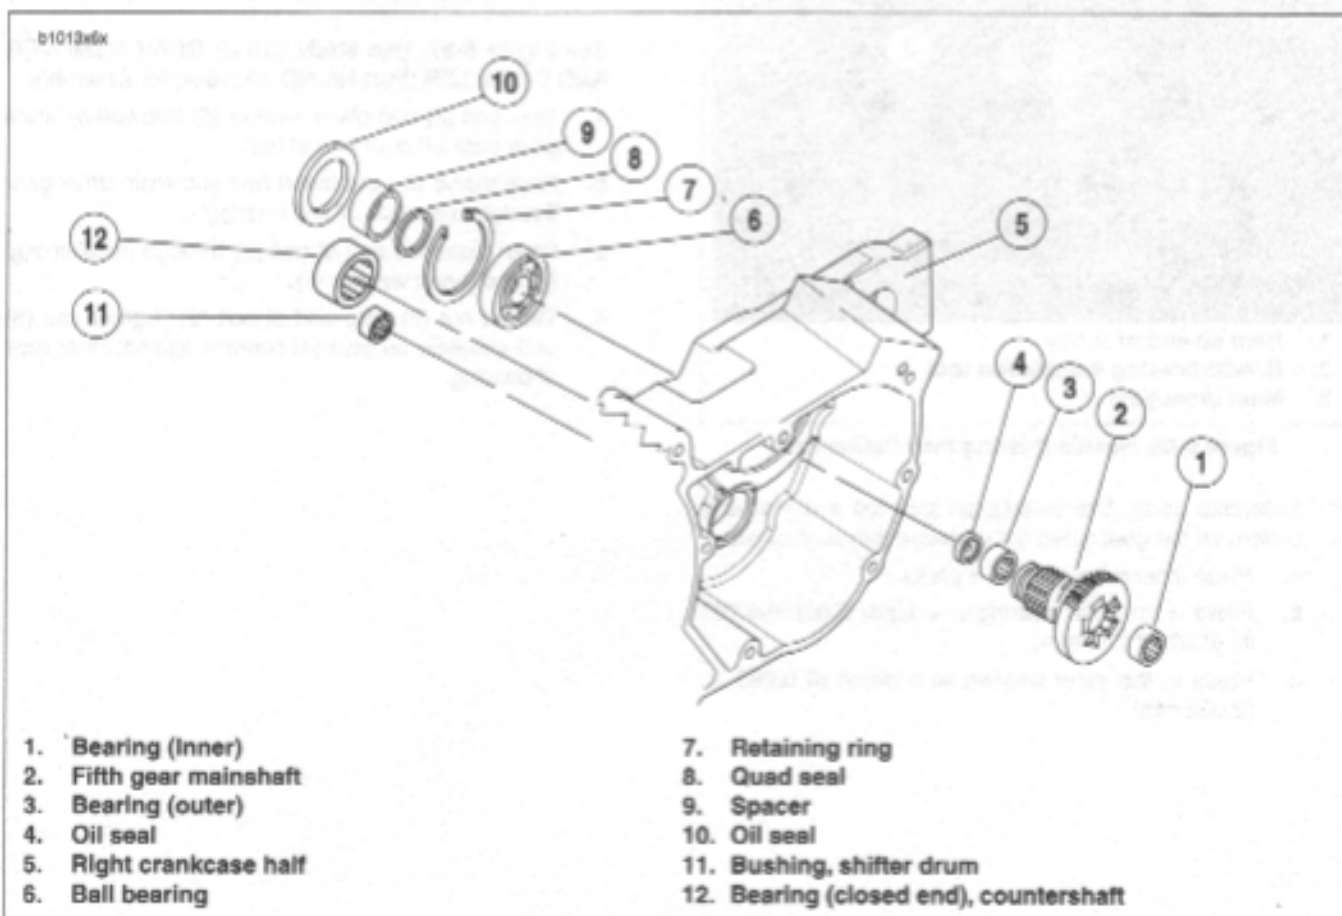

Figure 6-69. Transmission Assembly Right Crankcase Half
4. See Figure 6-69. Place **new** quad ring over threaded end of fifth gear, and position next to the gear taper. Install spacer over threaded end of fifth gear with chamfered end toward quad ring. Slide spacer up against bearing.
See Figure 6-69. Refer to Transmission assembly right crankcase half, for location of items discussed on this page.
2. See Figure 6-69. Remove main drive 5th gear. Use MAIN DRIVE GEAR REMOVER AND INSTALLER (Part No. HD-35316A). See 6.9 MAIN DRIVE GEAR.
2. See Figure 6-69. From the outside of the case place the needle bearing open end first next to the bearing bore. Hold the driver squarely against the closed end of the bearing and tap the bearing into place. The bearing is properly positioned when it is driven inward flush or 0.030 in. (0.762 mm) below the outside surface of the case.
4. See Figure 6-69. The shifter drum bushing (11) is a press fit in the right crankcase half. Inspect the bushing against the corresponding end of the shifter drum for proper fit and wear.